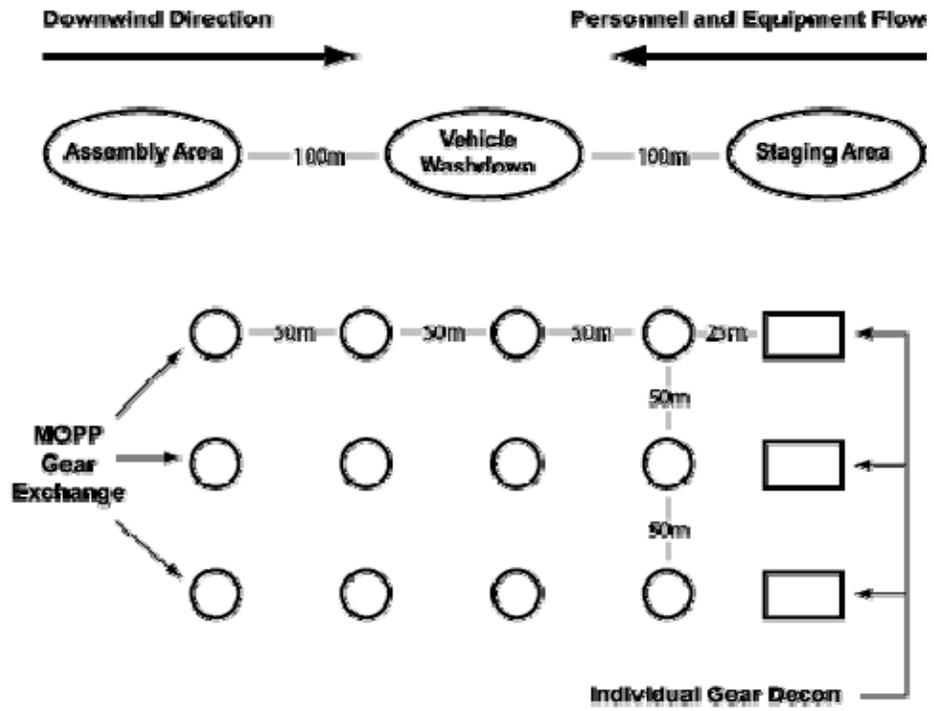

Figure 6-1. Decontamination Site.
- a. (1) M256A1 Chemical Agent Detection Kit
- b. (8) M2 TAP Aprons
- c. (1) M17A1 LWDA for vehicle washdown.
3. **The Bn establishes a single company-sized decon site.** The Bn Decon Team will prepare the site. The “dirty” company will send their decon team to this site. Once the site is established, the “dirty” unit proceeds to the site and provides security. A rifle company takes approximately four hours to decontaminate. *See Figure 6-1.*